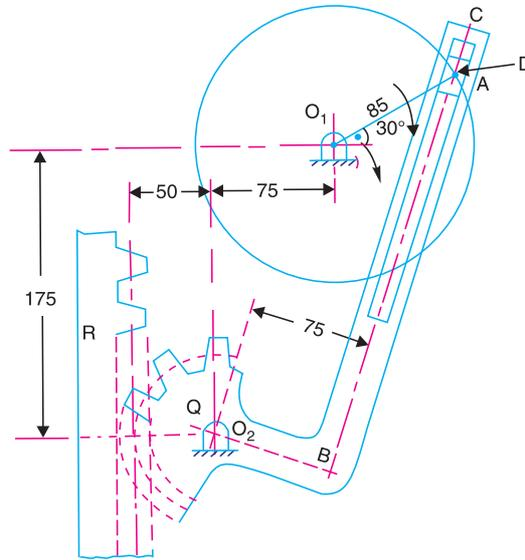

Fig. 7.19. All dimensions are in mm.
**Example 7.8.** In the mechanism, as shown in Fig. 7.19, the crank  $O_1A$  rotates at a speed of 60 r.p.m. in a clockwise direction imparting vertical reciprocating motion to the rack R, by means of toothed quadrant Q.  $O_1$  and  $O_2$  are fixed centres and the slotted bar BC and quadrant Q are rocking on  $O_2$ .